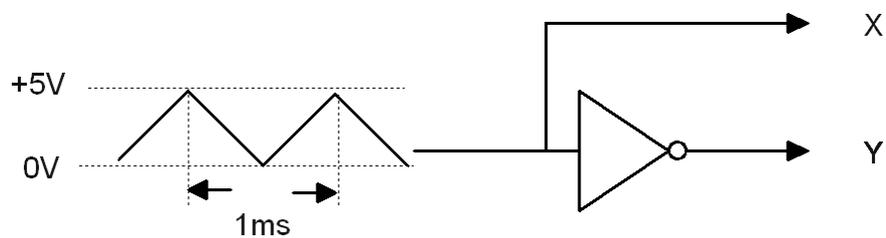

Fig. 4. Circuit to measure the transfer characteristics of a TTL gate.
1. Connect the circuit shown in Fig. 4. Use 74LS04 as the NOT gate.